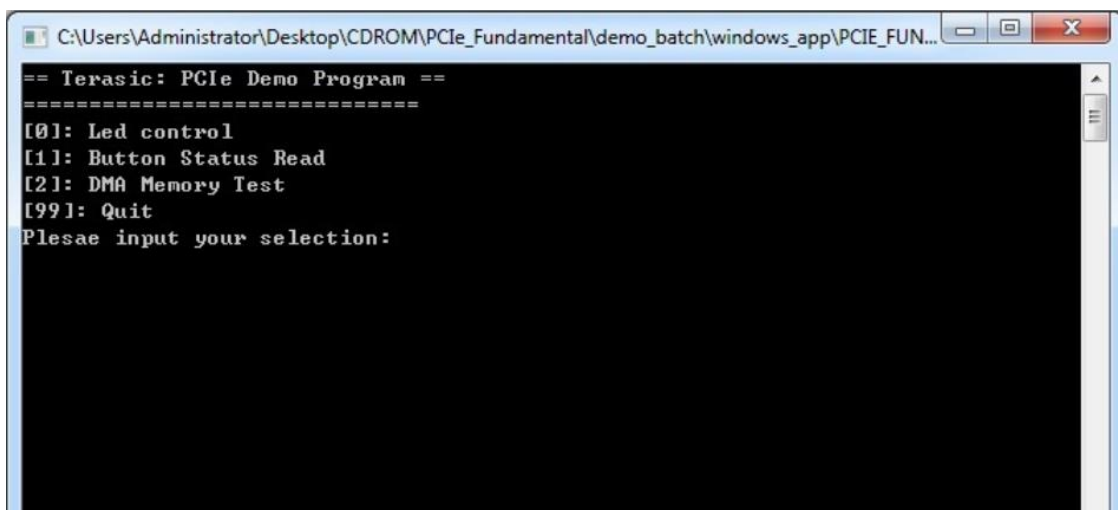

Figure 0-11 Screenshot of Program Menu
7. Goto windows_app folder, execute PCIE_FUNDAMENTAL.exe. A menu will appear as shown in **Figure 0-11**.